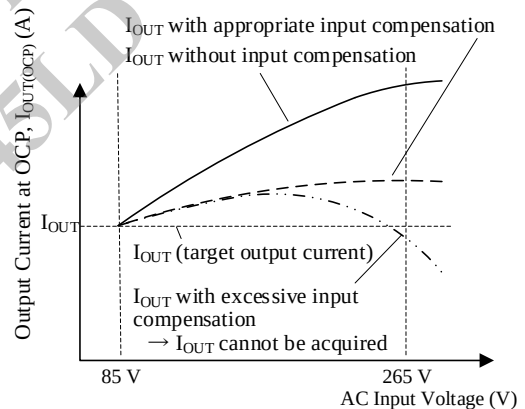
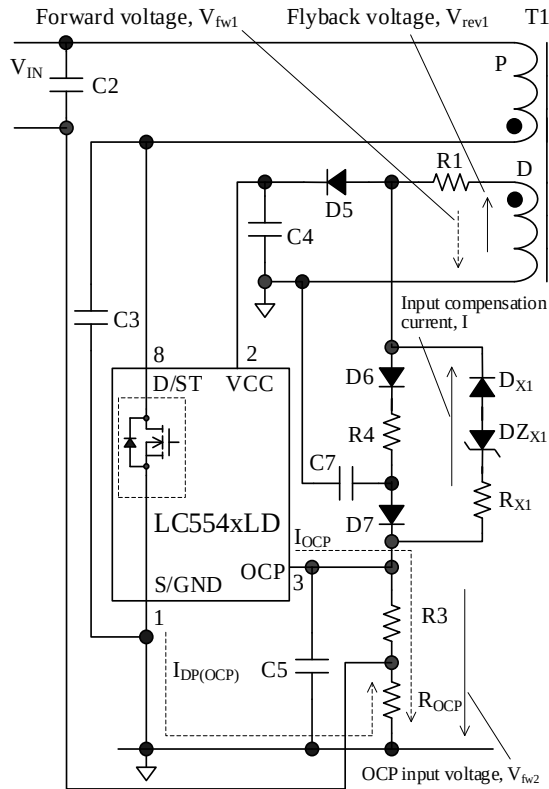
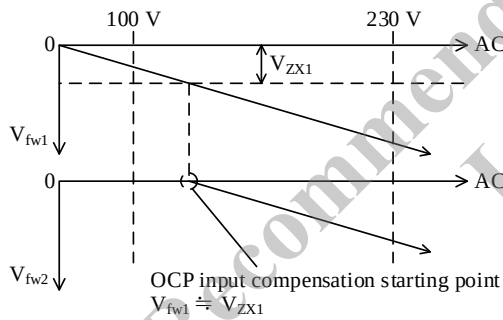

Figure 8-26. AC Input Voltage vs. Output Current at OCP (with or without OCP Input Compensation Function)
Figure 8-27. OCP Input Compensation Circuit
Figure 8-28. V_{fw1} and V_{fw2} vs. AC Input Voltages
Figure 8-26 shows the relationship between AC input voltage and the output current at OCP activation, $I_{OUT(OCP)}$, with the OCP input compensation function being activated or deactivated. When the IC without the input compensation, $I_{OUT(OCP)}$ increases as the AC input voltage increases (see “ I_{OUT} without input compensation” in Figure 8-26). To regulate $I_{OUT(OCP)}$ at the maximum AC input voltage, add the OCP input compensation circuit (D_{X1} , DZ_{X1} , R_{X1}) as shown in Figure 8-27. The values of these components should be adjusted so that $I_{OUT(OCP)}$ at the maximum AC input voltage exceeds the target output current, I_{OUT} (see “ I_{OUT} with appropriate input compensation” in Figure 8-26).
Figure 8-27 shows the OCP input compensation circuit, and Figure 8-28 shows the V_{fw1} and V_{fw2} voltages according to the AC input voltage. The compensation amount of V_{OCP} depends on values of the input compensation current, I , R_{X1} , $R3$, and R_{OCP} . The input compensation current, I , is calculated by the following equation:
For other component numbers, such as resistors, see Figure 8-27.
$I_{DP(OCP)'}$ in the maximum AC input voltage should be set to the peak drain current where the output current is equal to “ I_{OUT} with appropriate input compensation” in Figure 8-26.
- 4) In the maximum AC input voltage (265 VAC) condition, measure the drain current, $I_{DP(OC)}$ ', when the output current, $I_{OUT(OC)}$, becomes the "I_{OUT} with appropriate input compensation" in Figure 8-26.
- 6) Confirm that the output current during OCP operation, $I_{OUT(OC)}$, is similar to "I_{OUT} with appropriate input compensation" in Figure 8-26, in an actual operation throughout AC input voltage ranges. If $I_{OUT(OC)}$ is not appropriate, be sure to adjust the constants of DZ_{X1} and R_{X1} by changing the compensation startup voltage, $V_{IN(OC_ST)}$.